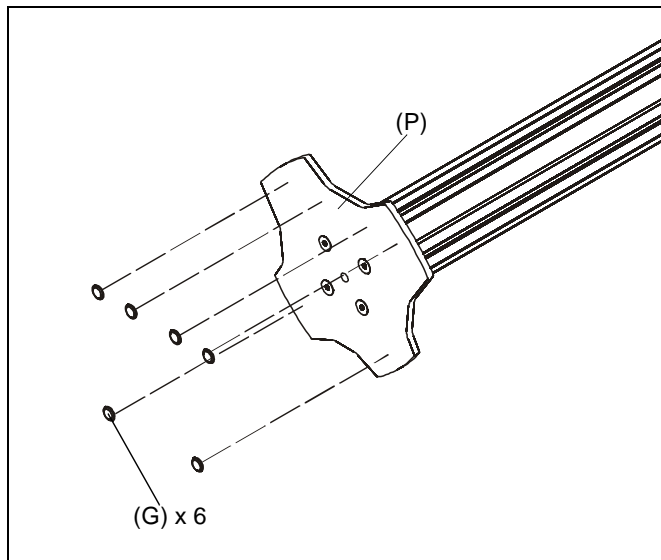

Figure 6
2. Apply bumpers (G) to underside of grommet plate (P). (See Figure 6)